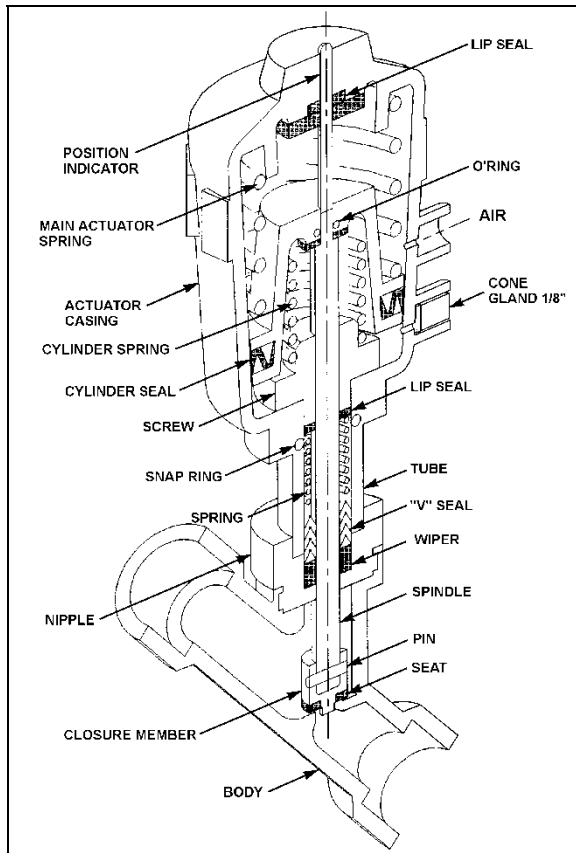

FIGURE 56: PNEUMATIC WATER VALVE
2. The water valve need not be removed from the line. Unscrew nipple, the actuator casing, tube, spindle and closure member can be removed (Figure 56).
2. Tighten the nipple in place in the body cavity as per Figure 56. Fasten pilot solenoid valve to the pneumatic water valve. Reconnect air supply pressure and electrical current to the pilot solenoid valve.